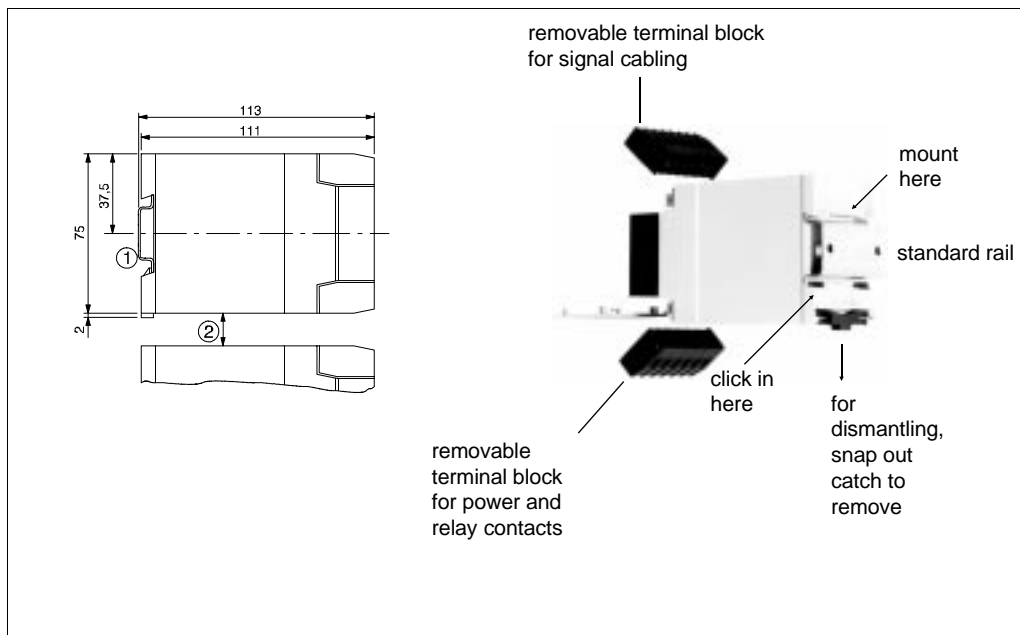

Fig. 4
- Please also note the permissible ambient temperatures (see Technical Data) and the minimum distance between rows of instruments (Fig.4).